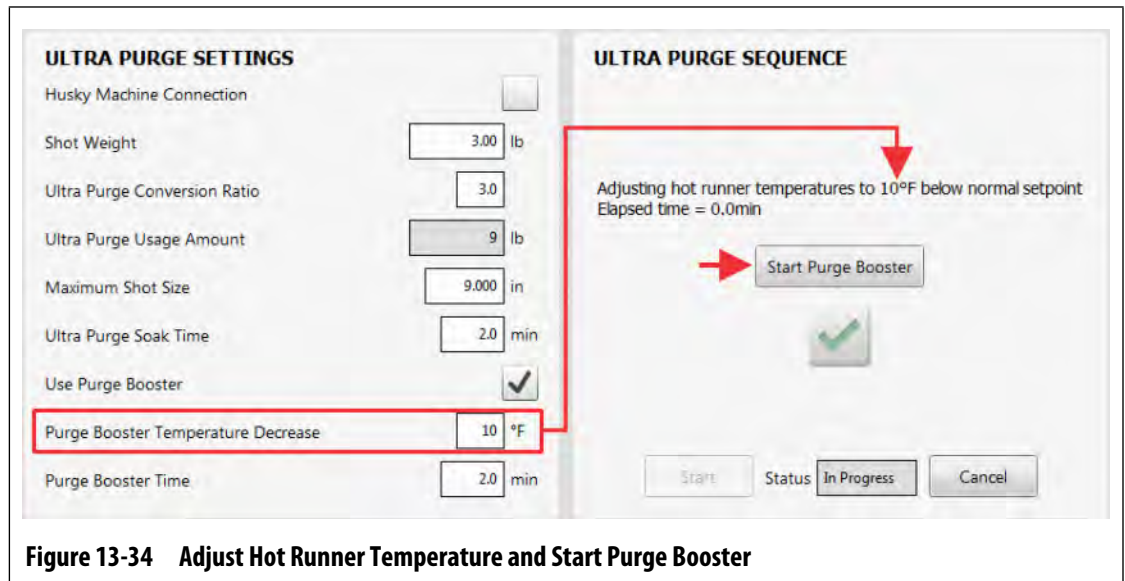

Figure 13-34 Adjust Hot Runner Temperature and Start Purge Booster
21. Adjust the hot runner temperature to x °F (x °C) below the normal setpoint (refer to Figure 13-34).